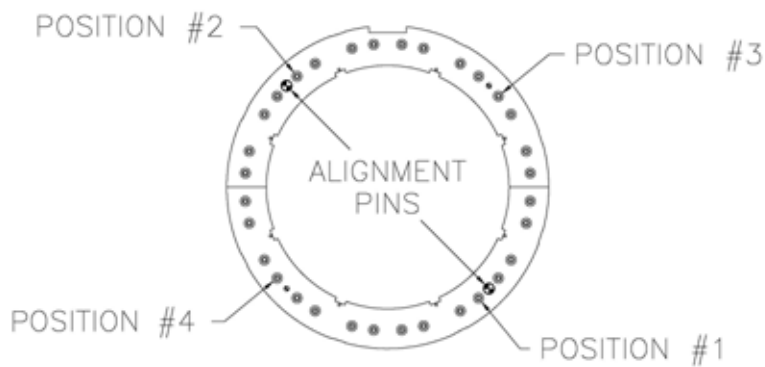

Figure 7-19. Adjust the bearings in order at the positions shown.
7. Identify the bearing at position #1 (Figure 7-19). Using a 3/16" hex wrench, turn the eccentric shaft **clockwise** until the guide wheel bearing feels fully seated in the groove.